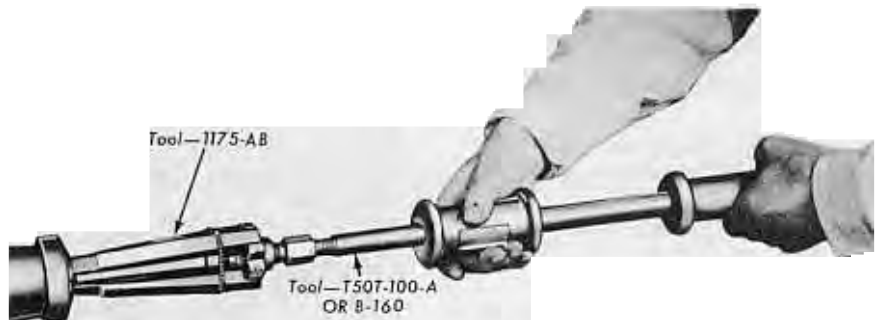
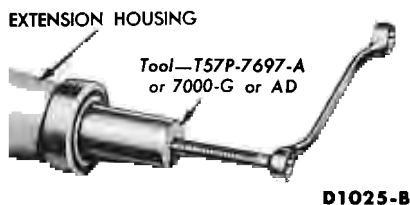

FIG. 23—Removing Extension Housing Seal
FIG. 24—Removing Extension Housing Bushing
2. When only the rear seal needs replacing, carefully remove it with a tapered chisel or the tools shown in Fig. 23. Remove the bushing as shown in Fig. 24. Use the bushing remover carefully so that the spline seal is not damaged.